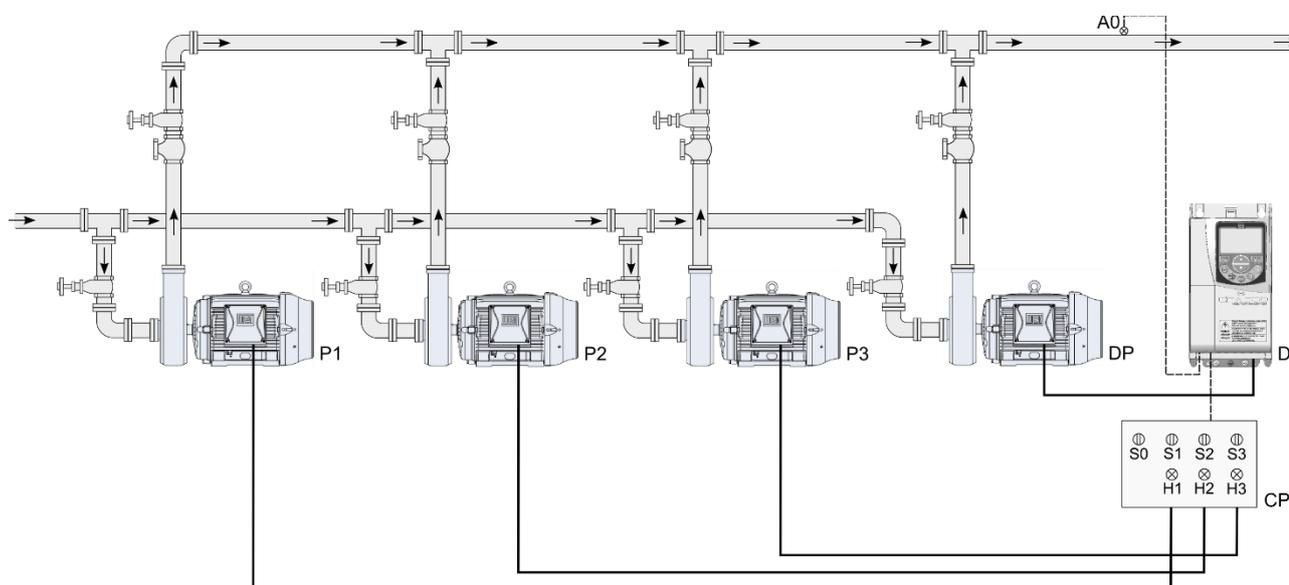

Figure 2.15 – Pump Genius Multipump application with fixed control, four pumps in parallel and control setpoint via HMI
The figure 2.15 presents a typical system with four pumps in parallel and control setpoint via HMI basically composed of:
The pumps 1 to 3 can be driven by contactors (direct on line or star delta start), softstater, intelligent relays, etc. The signals H1, H2 and H3 are not necessary for the operation of the Pump Genius Multipump with fixed control, 3 pumps in parallel and control setpoint via HMI, because they only serve to indicate the operating condition of the pumps on the command panel (CP). In the figure 2.15, the signals H1, H2 and H3 come from auxiliary contacts of contactors K1, K2 and K3 which start the pumps 1, 2 and 3.